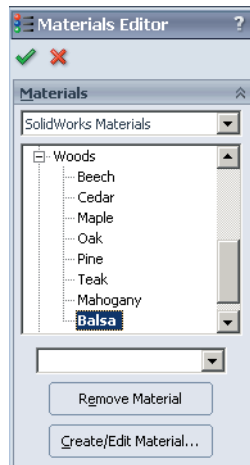

Fig. 19
Step 3. Scroll down the Materials and expand **Woods** (click the +), Fig. 19. Select **Balsa** and click OK .